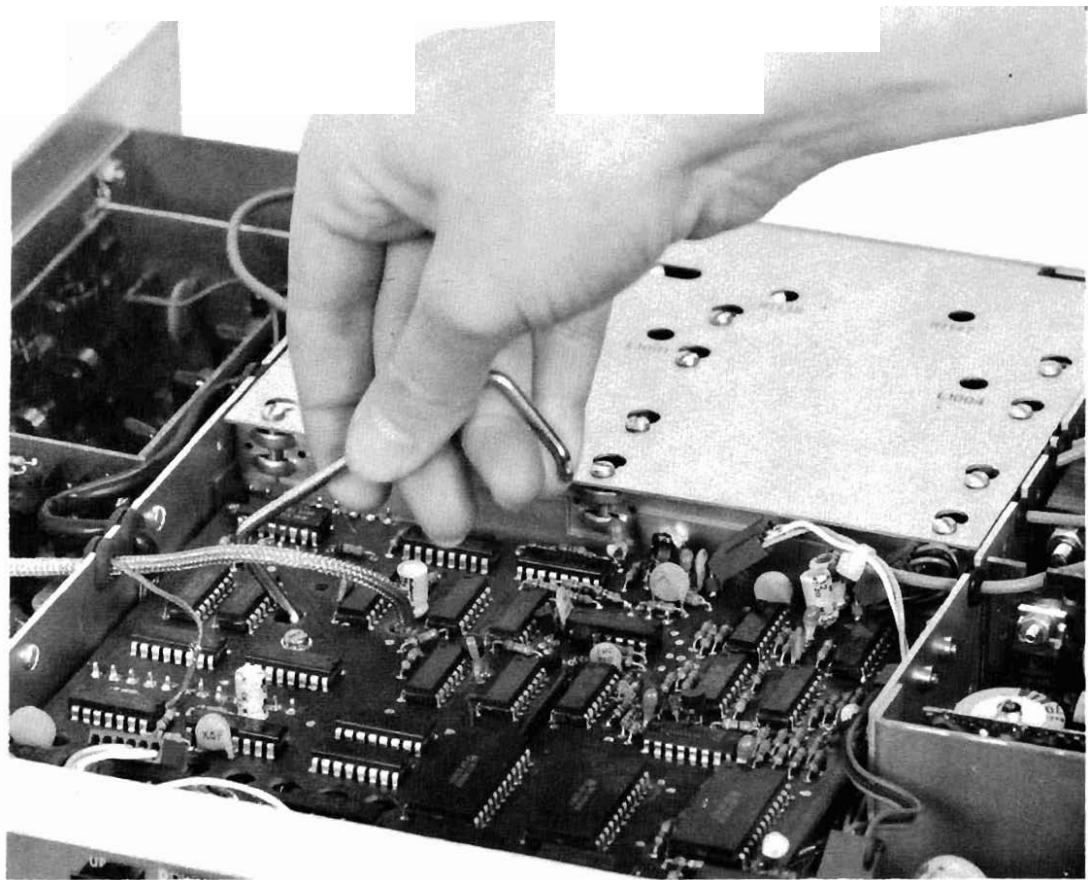

Fig. 4-1 DR7 Removal
DR7 REMOVAL (Refer to Pictorial Fig. 4-1)
1. Unplug (5) five connectors (P1 through P5) from the DR7 board. Position cables carefully so that they will be free of the DR7 Board when it is lifted out. Remove the retaining screw and lockwasher (adjacent to U9006).
3. Using the card puller supplied with the radio, hook one end under the front edge of the large hole adjacent to U9008 (shown in figure 4-1). Grasp the tool and pull upwards firmly, but slowly, to disengage one 12 pin, one 9 pin and two 3 pin connectors. Once the connectors have been disengaged, remove the card puller.